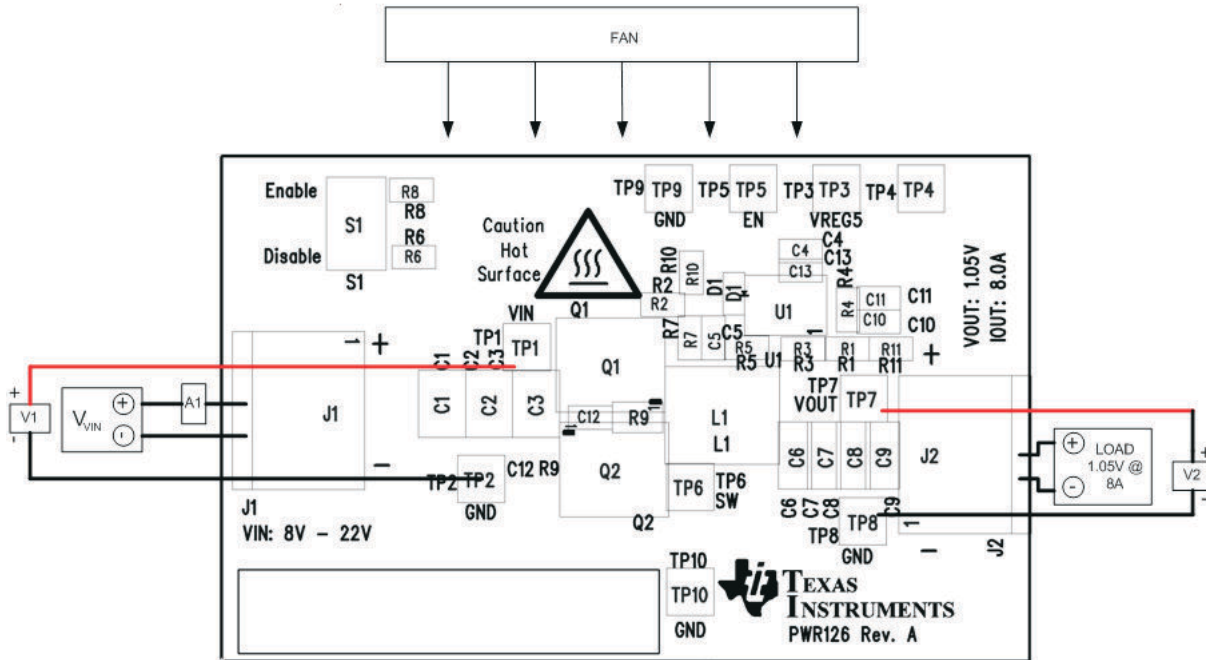

Figure 5-2. TPS53015EVM-126 Recommended Test Setup
- **VIN:** The input voltage source,  $V_{IN}$ , should be a 0-V to 30-V variable DC source capable of supplying 2 ADC. Connect VIN to J1 as shown in Figure 5-2.
Figure 5-2 is the recommended test setup to evaluate the TPS53015EVM-126. Working at an ESD workstation, make sure that any wrist straps, bootstraps, or mats are connected referencing the user to earth ground before power is applied to the EVM.
- Prior to connecting the DC input source  $V_{IN}$ , it is advisable to limit the source current from VIN to 2-A maximum. Make sure VIN is initially set to 0 V and connected to J2 as shown in Figure 5-2.
**Other Connections:** Place a fan as shown in Figure 5-2 and turn on, making sure air is flowing across the EVM.
1. Set up the EVM as described in Section 5 and Figure 5-2.